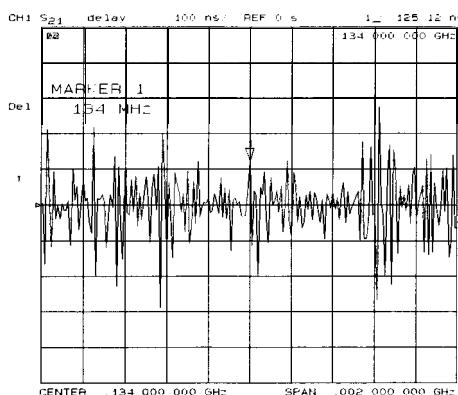

Figure 2-37. Group Delay Example Measurement
2. To view the measurement in delay format, as shown in Figure 2-37, press: